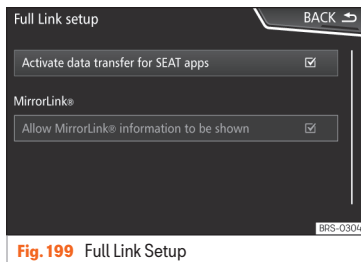

Fig. 199 Full Link Setup
- In the main menu for the Full Link setup, select **Activate data transfer for SEAT apps** »» Fig. 199: